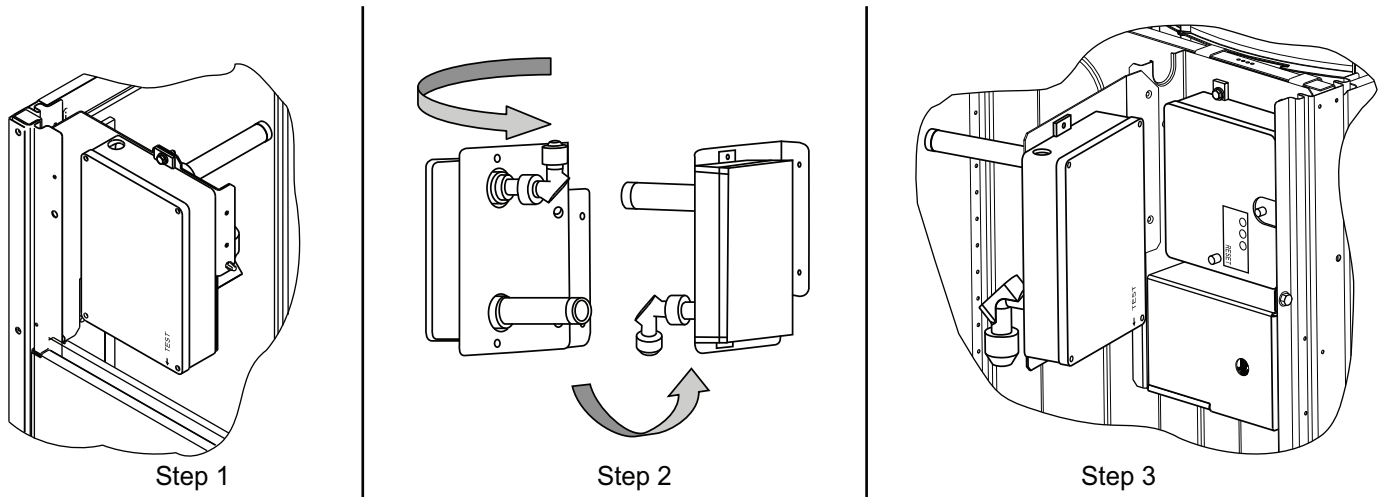

Fig. 72 — Completing Installation of Return Air Smoke Sensor
1. Unscrew the 2 screws holding the return-air smoke detector assembly. See Fig. 72, Step 1. Save the screws.
2. Turn the assembly 90 degrees and then rotate end to end. Make sure that the elbow fitting is pointing down. See Fig. 72, Step 2.
3. Screw the sensor and detector plate into its operating position using screws from Step 1. See Fig. 72, Step 3.